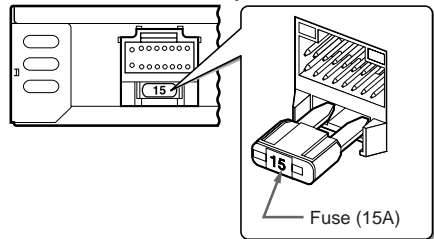

Figure 10
4. When any fuse is to be replaced, pull out the fuse (15A) at the rear of the tuner amp unit and put in a new one (Figure 10).